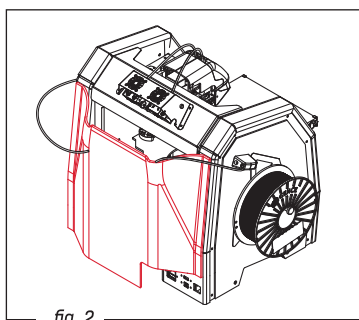
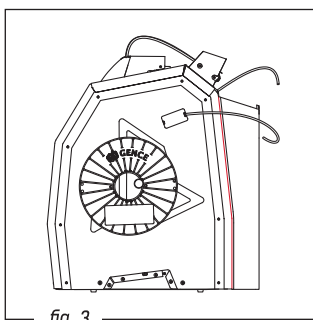

fig. 2
fig. 3
4. Mount the rear enclosure part (fig. 2). Align the curvature of the enclosure, so that it interlocks with the back of the printer (fig. 3).